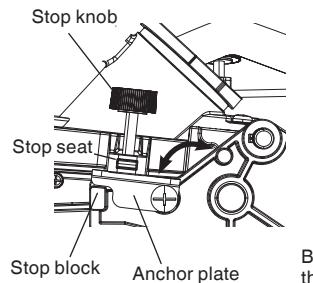

Fig. 42
- (1) Turn the anchor plate on the direction shown in Fig. 42.
- (2) Adjust to the desired cutting depth by setting the distance between the saw blade and the surface of the turntable (see ⑥ in Fig. 42).